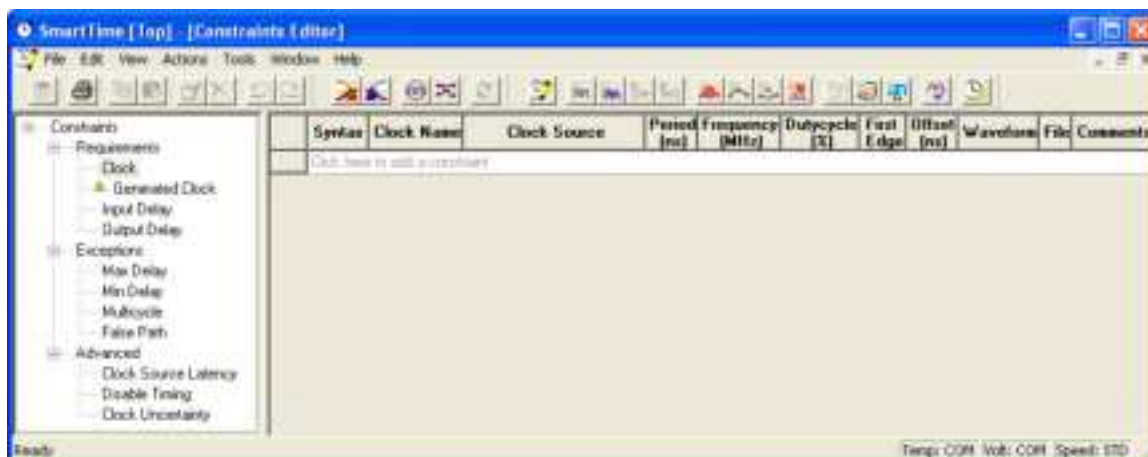

Figure 1-38 • SmartTime Constraints Editor
1. Click the **Constraints Editor** button to open the SmartTime Constraints Editor (Figure 1-38). You will create a clock constraint for the clock in your design.